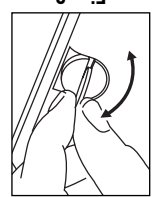

Fig. 2
2. Turn battery pack over and place coin into slot and rotate to unlock. (Fig. 2)